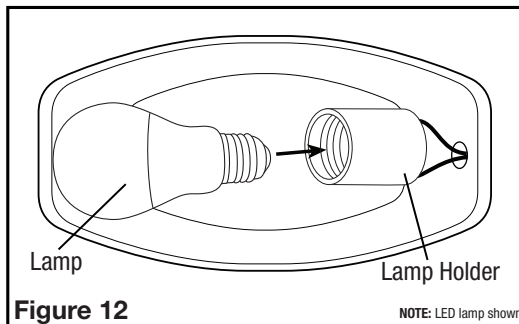
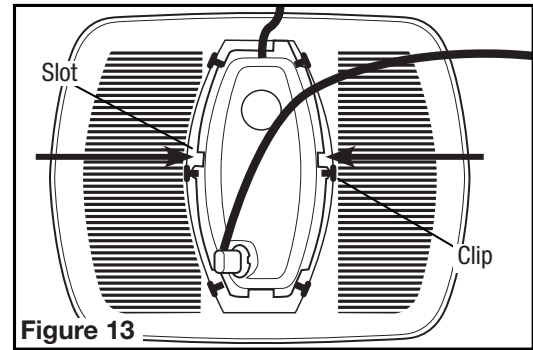

Figure 12
Figure 13
4. Install the included lamp into the E26 (screw base) lamp holder (Figure 12).
5. Install the reflector onto the grill by placing the slots on the side of the reflector over the lens clips near the center of the grill. While squeezing the middle of the reflector, slide it so that the plastic notches rest under the lens clips and the reflector feels secure (Figure 13).
3. **Changing the Lamp:** Disconnect power to the unit. Remove grill by pulling downward on grill and squeezing grill springs together to release from housing (Figure 13). Remove Reflector from grill by sliding the reflector notches from beneath the lens clips on grill. (Figure 12).